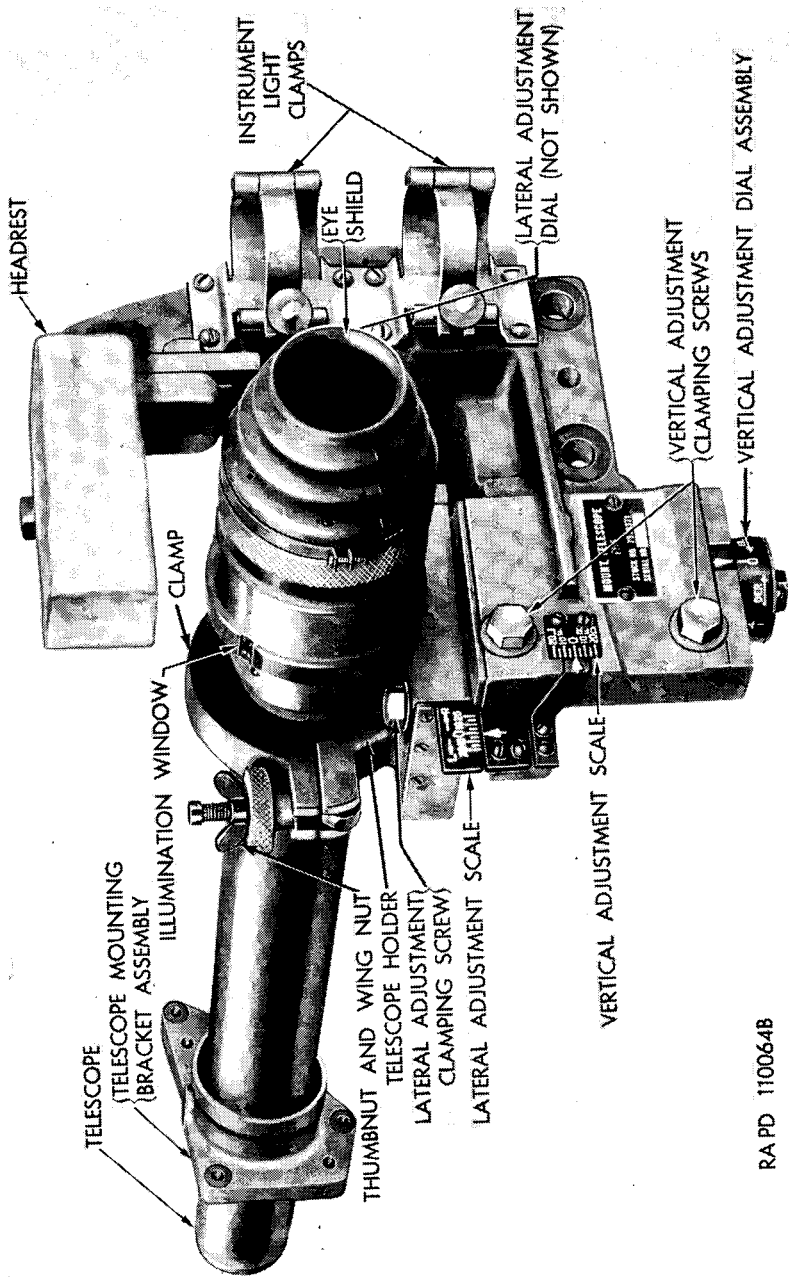

Figure 194. Telescope M71K and telescope mount M65.
a. **TELESCOPE MOUNT M65.** The telescope M83F or M71K (fig. 194) is clamped in position in the telescope mount. The telescope mount has lateral and vertical scales for boresighting adjustment.
- (1) *Telescope M83F or M71K*. For lateral adjustment of the line of sight, loosen the lateral adjustment clamping screws on the telescope mount M65 (fig. 194) and turn the lateral adjustment dial until the reticle cross falls on the distant aiming point; tighten the screws. For vertical adjustment of the line of sight, loosen the vertical adjustment clamping screws (fig. 194) and turn the vertical adjustment dial assembly until the cross falls on the distant aiming point; tighten the screws.